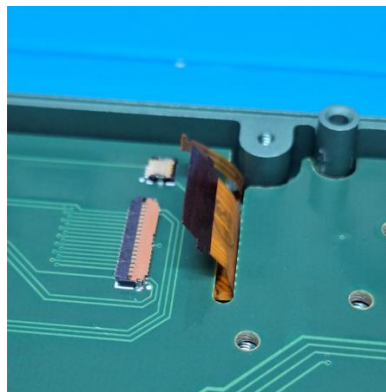

Figure 13: Cutout in button PCB for screen ribbon cables
5. Place the button PCB into the front shell. When placing the button PCB, ensure that the two ribbon cables of the screen feed through the designated cutout in the PCB without pinching as shown in Figure 13.